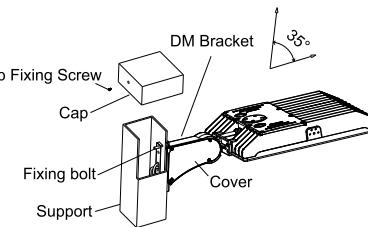

Figure 14
Step 1: Open the side lid of direct bracket, let the power cable go through the direct bracket. Fix the direct bracket to the end of lamp body with bolt. Let the pole cable go through the direct bracket. (Figure 14)